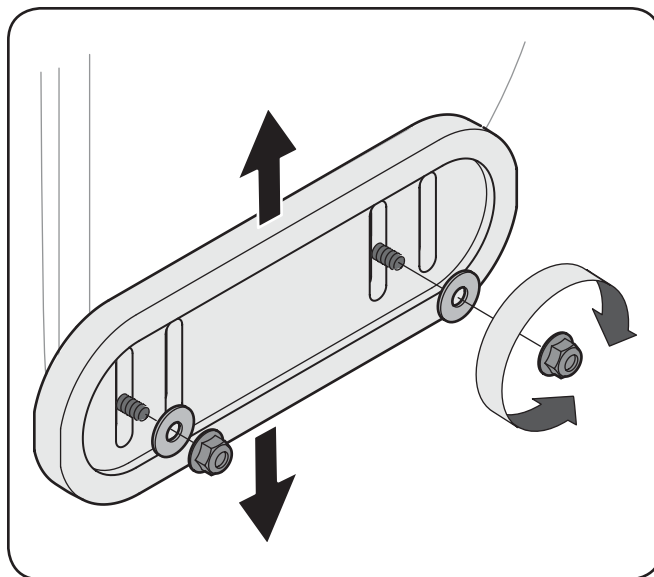

Figure 3-30
1. Loosen the four hex nuts (two on each side) and carriage bolts. Move skid shoes to desired position. See Fig. 3-30.
NOTE: The skid shoes on your snow thrower may look slightly different (and have different hardware) than the ones shown in Fig. 3-30.